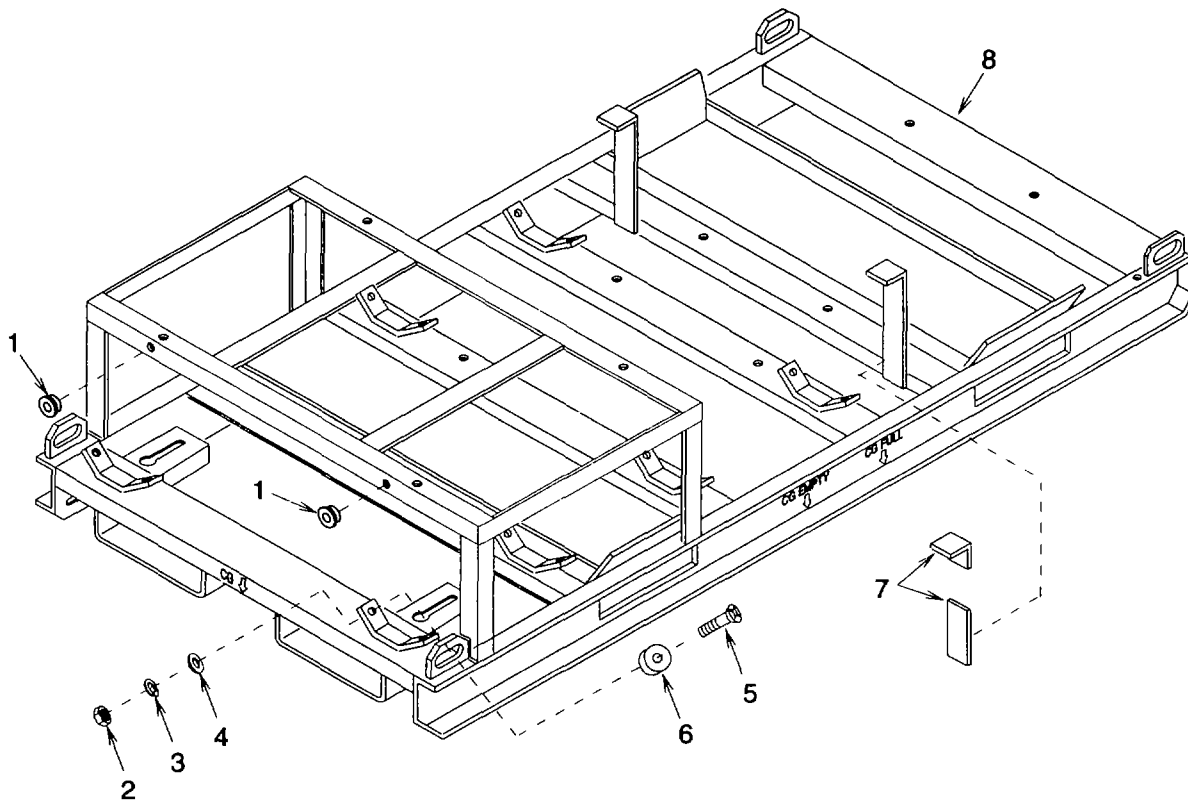

Figure 4-27. Skid Frame Repair Items
a. Disassembly (See figure 4-27.)
(1) Remove two bushings (1).
(2) Remove 16 nuts (2), lock washers (3), flat washers (4), screws (5), and slide buttons (6). Discard lock washers.
(3) Remove two sets of pads (7).